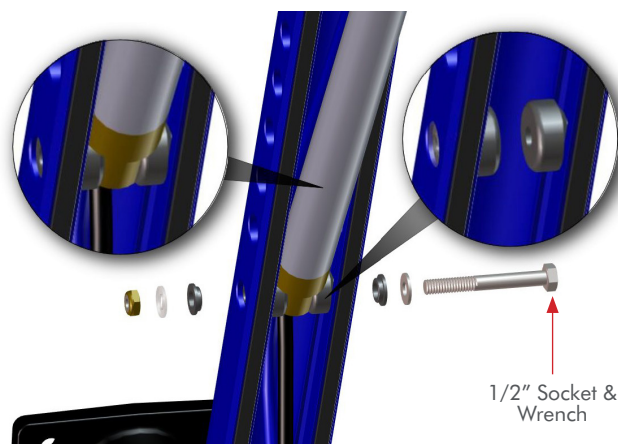

Figure 11
STEP 6 Once the **Hydraulic Tubing** is securely fastened to the **Cylinder Fittings**, place the bottom of the **Cylinder** back into its previous position and install the bolt and hardware. Tighten lock nut snug using a **1/2" socket & wrench**. **FIG 11**